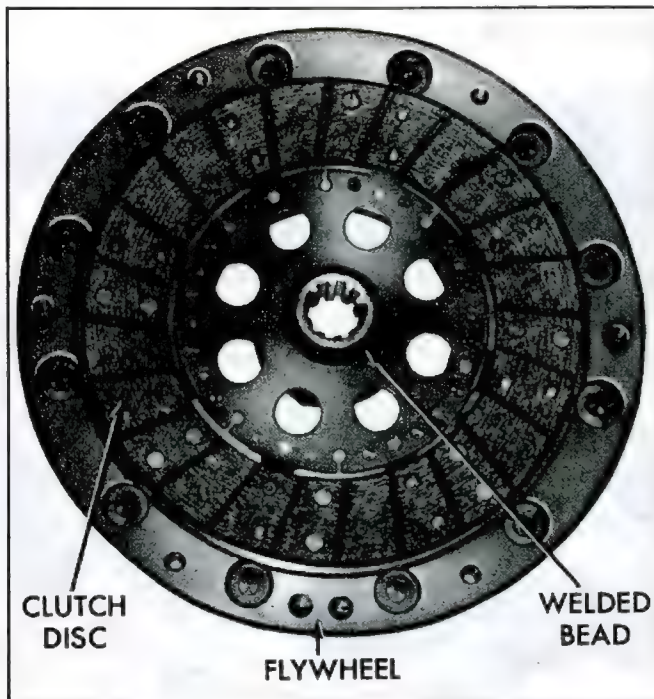

Fig. 7-7—Clutch Disc Installed
1. Install clutch disc so the short hub is located on the flywheel side of the driven plate hub, as shown in Figure 7-7. This side is stamped "Flywheel Side".